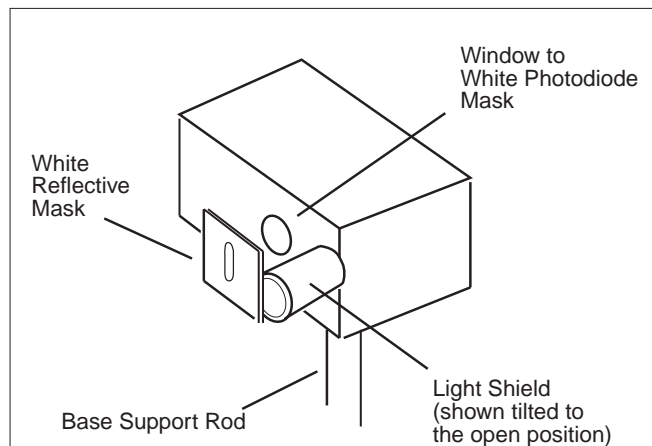

Figure 9. h/e Light Shield
10. Set the h/e Apparatus directly in front of the Mercury Vapor Light Source. By sliding the Lens/Grating assembly back and forth on its support rods, focus the light onto the white reflective mask of the h/e Apparatus (Figure 9).